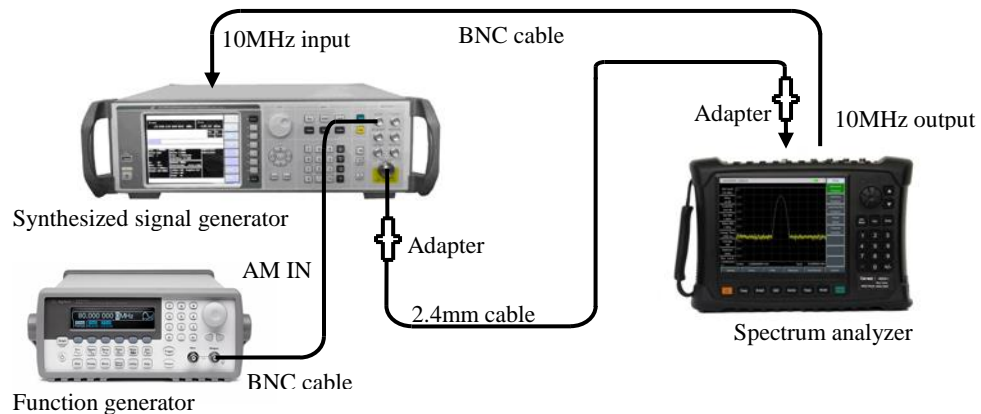

Fig. 12-4 Setting for Sweep Time Accuracy Test
1) Connect the test equipment as shown in Fig. 12-4. Connect the output of the function generator to the AM input end of the signal generator, and the RF output of the signal generator to the RF input port of the spectrum analyzer to be tested. The spectrum analyzer will provide the frequency reference for the synthesized signal generator.